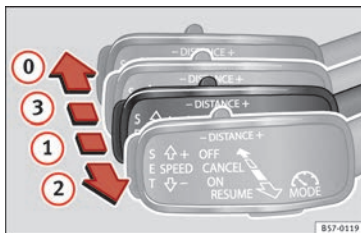

Fig. 180 On the left of the steering column: third lever for operating the Adaptive Cruise Control.
The ACC can be activated again by moving the lever to position ② » Fig. 180.